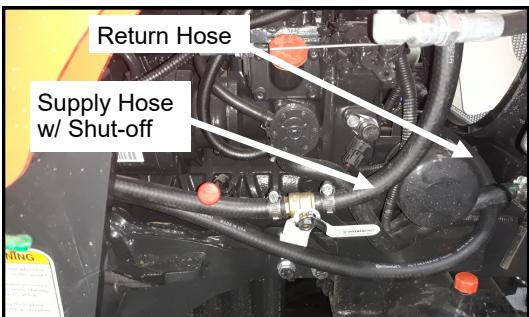

Fig. 14.5A (Return Hose Routing)
**14.5** Ref. figures 14.5A and B. Route the hose along the engine bay, away from any moving parts, sharp edges, or sources of heat. Run along the bottom of the radiator keeping clear of the fan and fan belts. Cut to length and connect to the return line tee. Use the remaining hose to connect to the other heater port and the nipple installed on the thermostat housing. This is the supply line.